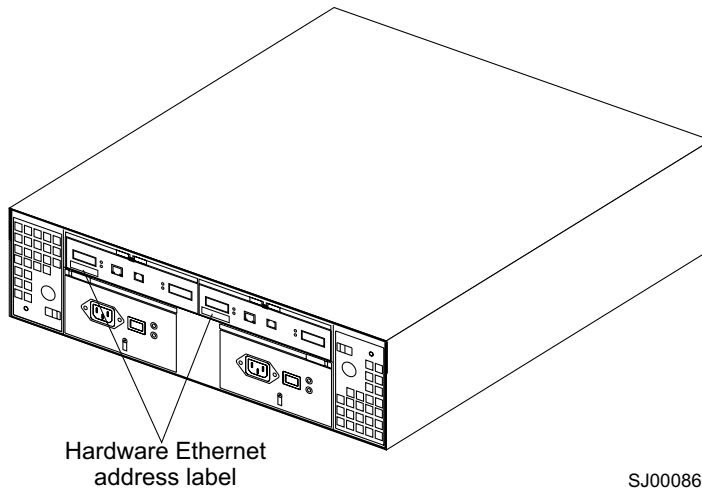

Figure 8. Locating the Ethernet MAC address for machine type 3542
1. Locate the Ethernet MAC address at the back of the unit, under the controller Gigabit Interface Converter (GBIC) ports, as shown in Figure 8 on page 24. The number will be in the form xx.xx.xx.xx.xx.xx (for example, 00.a0.b8.20.00.d8).